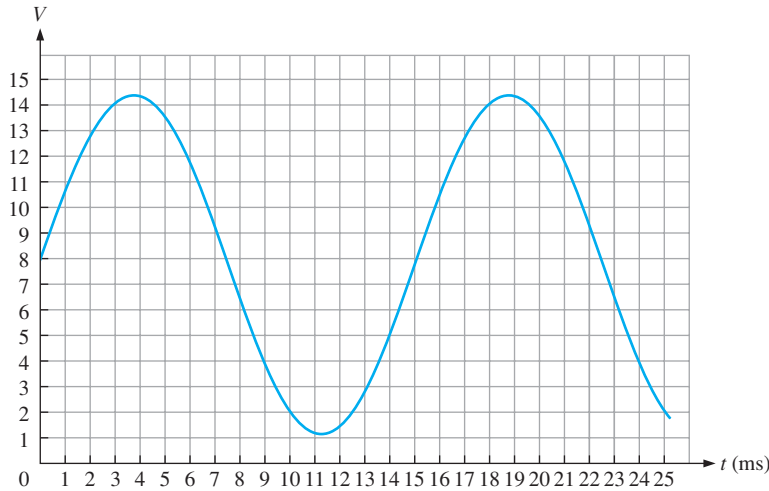

FIGURE 14-64
6. The analog signal in Figure 14-64 is sampled at 2 ms intervals. Represent the signal by a series of 4-bit binary numbers.